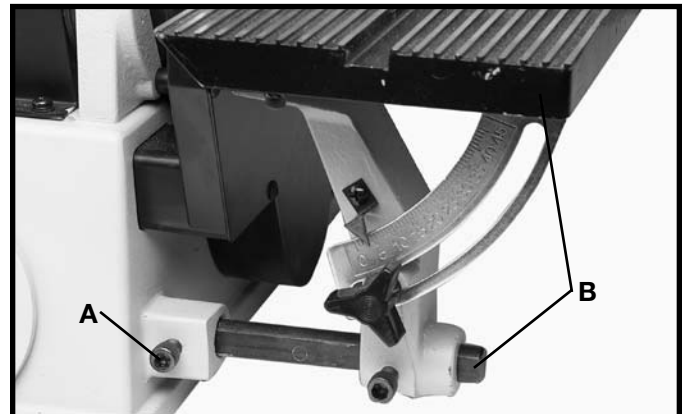

Fig. 42
2. Loosen screw (A) Fig. 42, and remove table assembly (B).